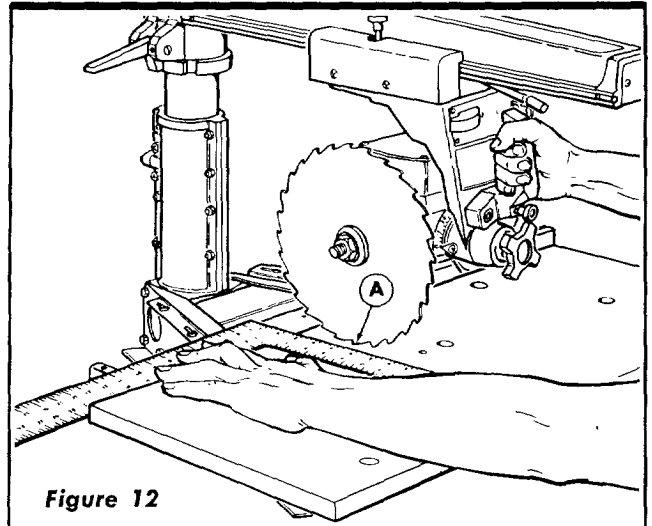

Figure 12
4. Place a square on the table as shown in figure 12 and position the saw and square until the leg of the square just contacts a tooth of the saw blade. (Position "A", figure 12.) Mark this tooth with crayon or chalk.
- a. If saw tooth ("A", figure 12) moves away from the square when moving the blade from the rear toward the front of the table, tap the rear edge of front board with a mallet on left side forward until the table is square with the saw blade.
- b. Move saw blade forward along steel square (figure 12) to determine in which direction the radial arm must be adjusted.